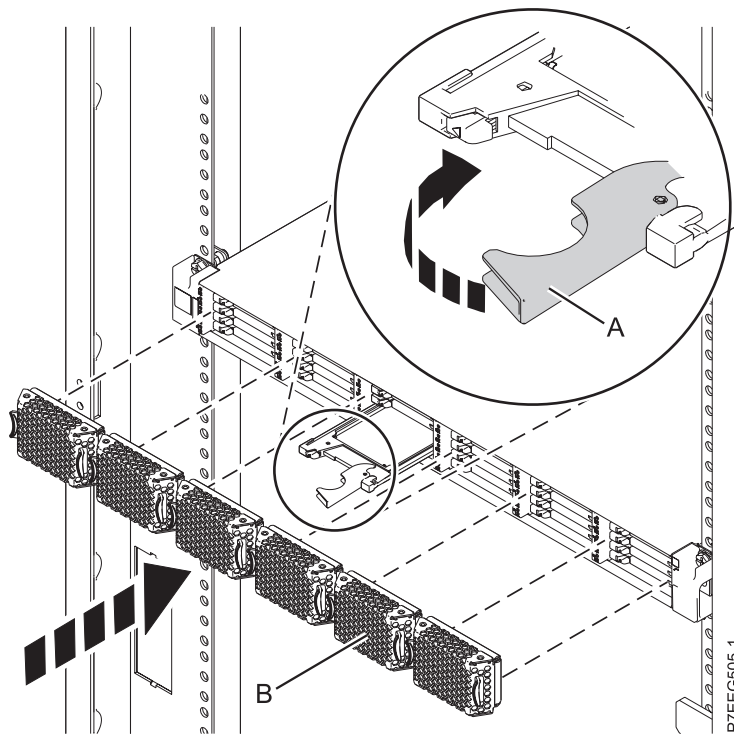

Figure 4. Installing a solid-state drive in the ED/R1 PCIe storage enclosure
1. With the handle in the unlocked position, align the solid-state drive with the guide rails in the enclosure. See Figure 4.